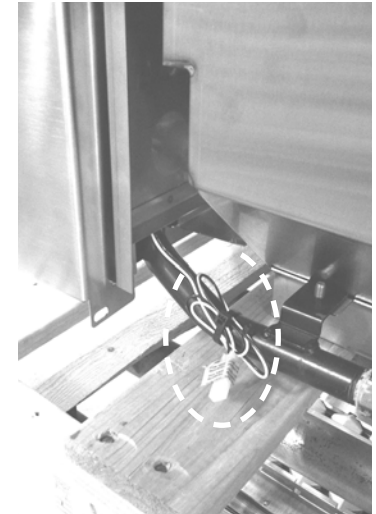

Fig. 3
- e. A side burner plug to provide electrical power for side burner is located at the right rear of the front panel. (Fig. 3)